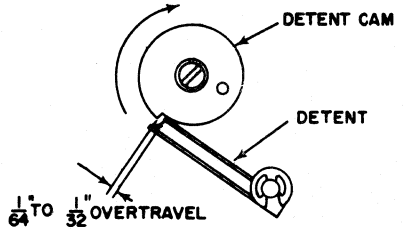

Figure 26
8. Loosen the set screws on the knock off cam and locate it so the clutch can overtravel from $\frac{1}{64}$ " to $\frac{1}{32}$ " before the cam contacts the clutch sleeve (Figure 26).